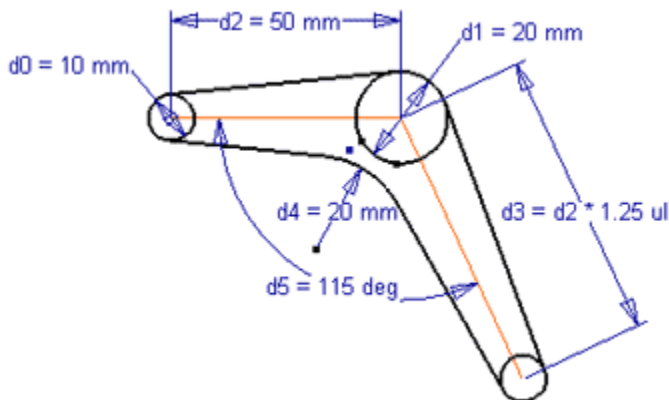

Figure 14: Angle dimension added.
4. Complete the dimensions by adding a 115-degree angle dimension between the two construction lines (see Figure 14).